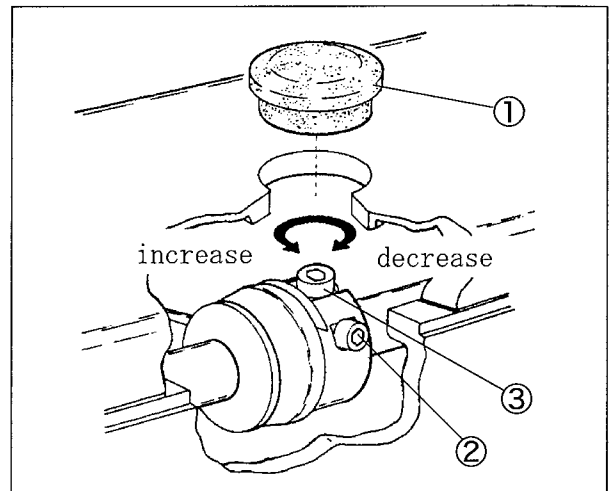

Fig. 6-32
- (3) Rotate the handwheel until the adjusting screw ③ comes to the top position. (Fig. 6-32)
- (4) Turn the adjusting screw ③ to adjust the feeding amount.
- (5) Tighten the screw ② with a tightening torque of 2.5 N·m securely.